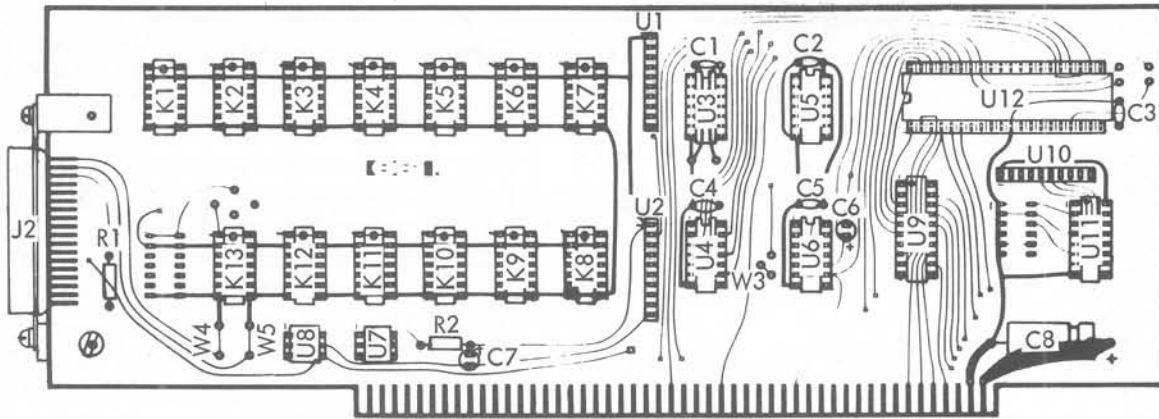

Figure A-3. Handler Interface Circuit Card
- STEP 3. Locate and cut the connecting stripes labeled W4 and W5 in Figure A-3.